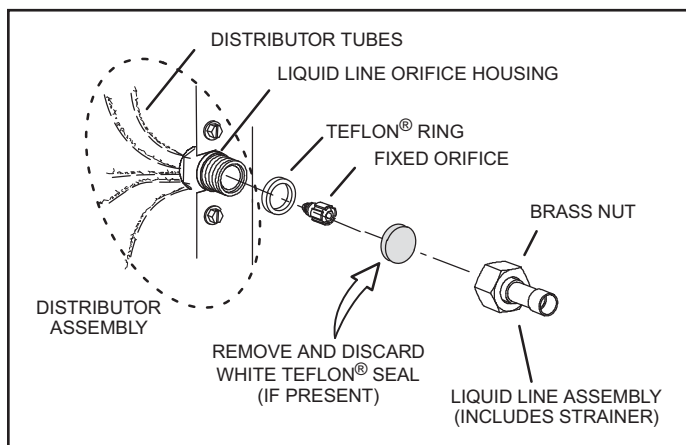

Figure 6. Remove Fixed Orifice (Uncased Coil Shown)
- Remove and discard fixed orifice, valve stem assembly (if present) and Teflon® washer, as shown in Figure 6.